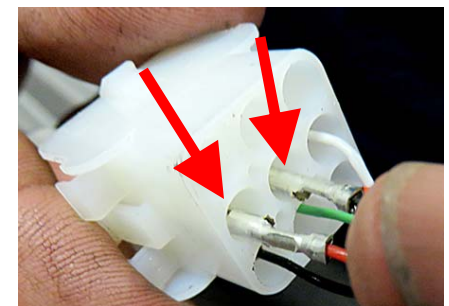

Figure 69
67. On the opposite end of the wires that were removed in the previous step, push the correlating pins 5 and 6, out of the 9-pin connector (see Figure 69) and discard the wires.